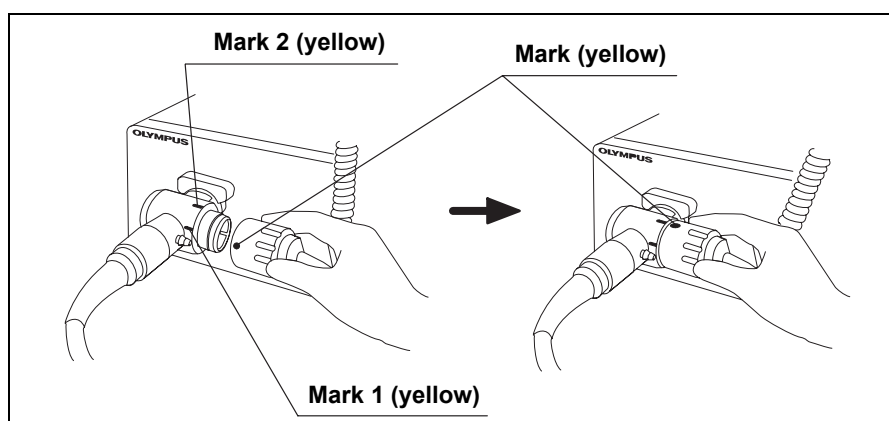

Figure 3.17
4. Align the mark on the videoscope cable EXERA or the videoscope cable 100 with mark 1 on the endoscope connector and push it in until it stops (see Figure 3.17).
5. Turn the connector of the videoscope cable clockwise until it stops (see Figure 3.17).